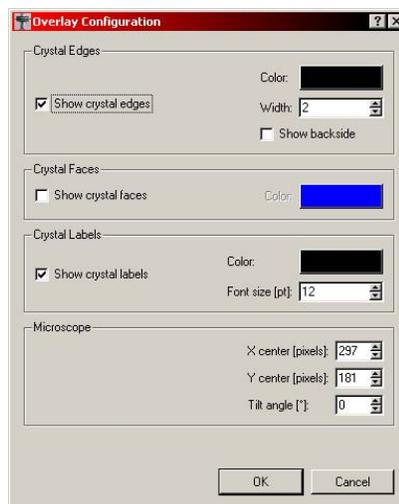

Figure B.5 – Overlay Configuration menu
1. Right-click in the image display area and select **Configure Overlay** from the menu. The Overlay Configuration menu appears (Figure B.5).